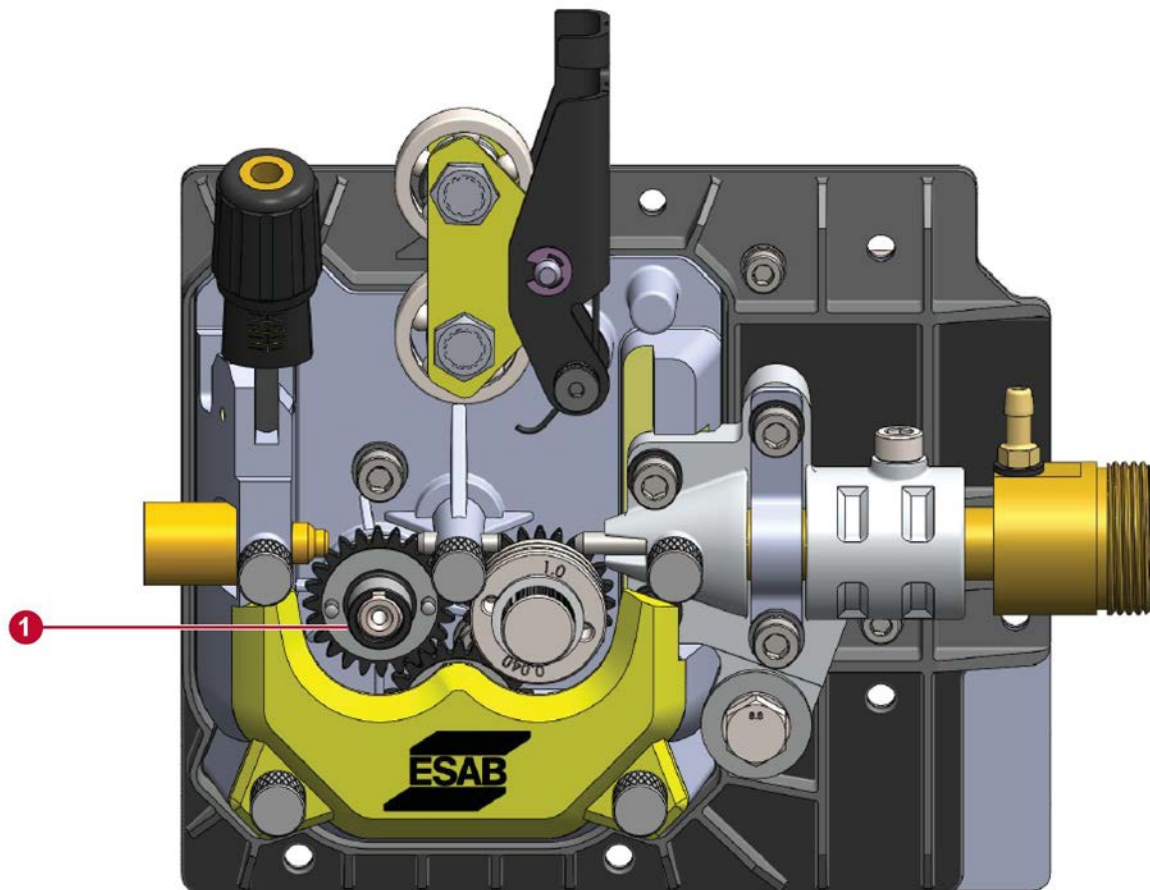

Figure 5. Drive gear with woodruff key on motor shaft
4. Release the tensioning arm by pulling it up out of its detent and rotating it toward you, (see Figure 5). Since the wire-feed pressure must be disturbed to release this arm, the tension on the rollers will have to be re-adjusted in a later step. The tensioning arm (2) is spring-loaded. It will pop-up when the tension knob in the previous step is rotated out-of-the-way.
4. Release the tensioning arm by loosening the tension knob (see (1) in Figure 5), pulling it up out of its detent and rotating it toward you. The tensioning arm (see (2) in Figure 5) is spring-loaded. It will pop-up when the tension knob in the previous step is rotated out-of-the-way.